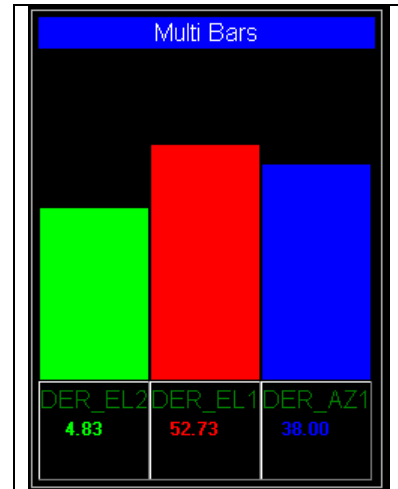

Figure 3-37 Multi-Bars Widget (Gauges/Charts)
The **Multi-Bars** widget, shown right in Figure 3-37, can display up to sixteen (16) individual parameters from up to twelve (12) streams, including formulas and functions. The user has individual control on bar colors and font sizes.